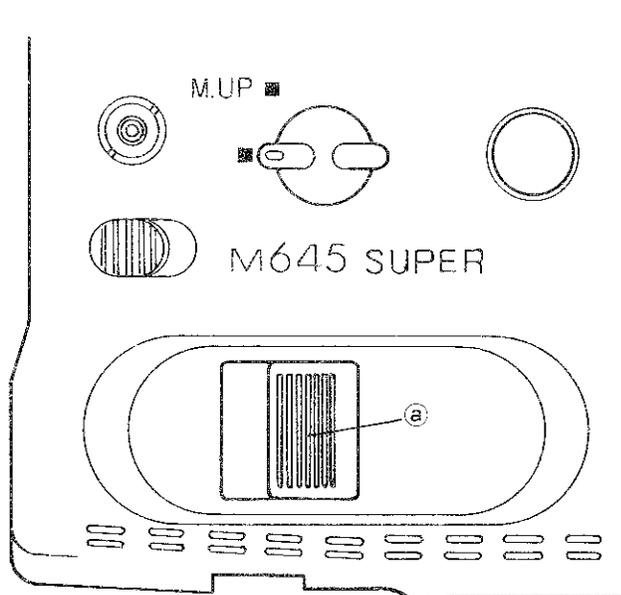

Fig. 31
1. When reassembling the right-side board, as shown in Fig. 31, set RC cover *P/N: 6200-11941) (a) aside to the right. Set the mirror-up lever in the horizontal (normal) position.